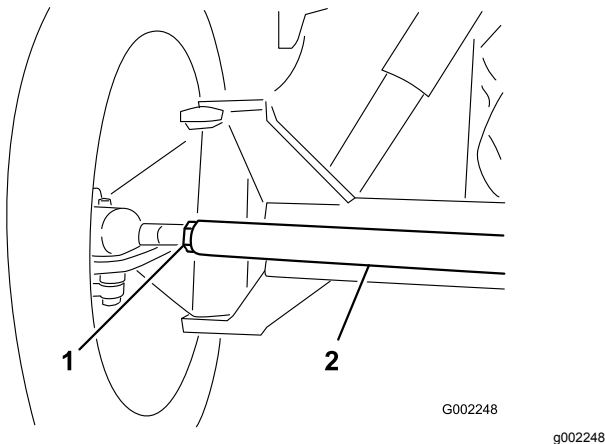

Figure 53
3. If the measurement does not fall within the specified range, loosen the jam nuts at both ends of the tie rod (Figure 53).